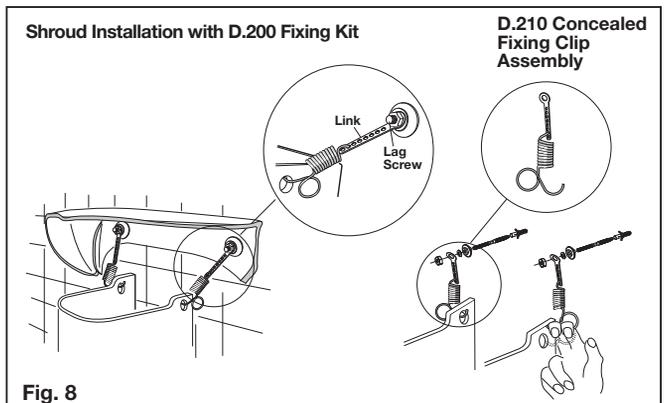

Fig. 8
For installations using the D.200 Fixing Kit, locate links on to lag screws and fit fixing springs as shown in **Figure 8**.
- 2- Position shroud to underside of basin and pull down springs with two fingers as detailed in **Figure 8** to locate into holes at the side of the shroud.